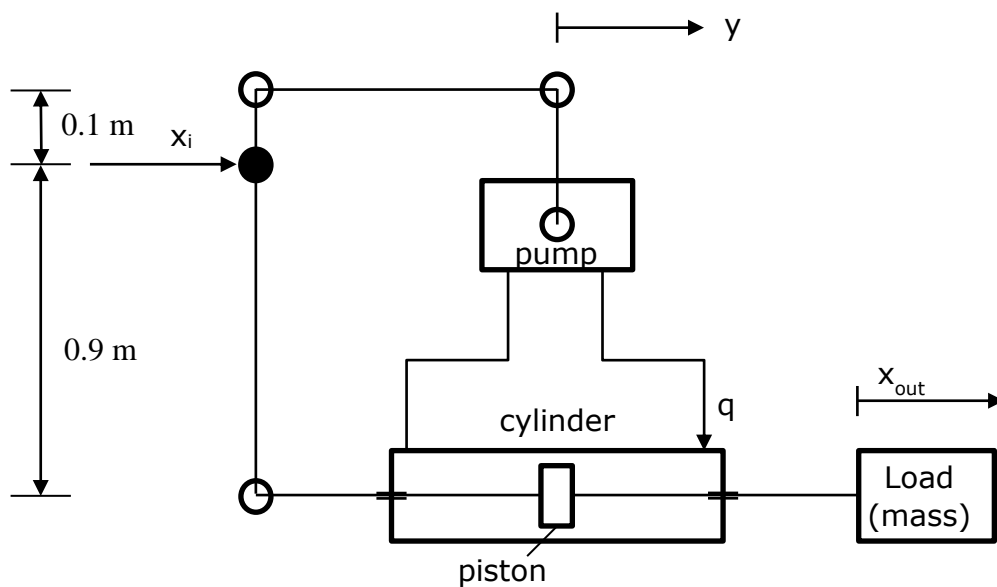

Figure Q1
1. A hydraulic servo system for positioning a large mass is shown in Figure Q1. The area of the ram (piston) is  $0.01\text{m}^2$  and the pump delivers  $0.2\text{m}^3/\text{sec}$  per metre displacement in  $y$  direction to the appropriate side of the ram piston. Determine the transfer function for the system and then calculate: